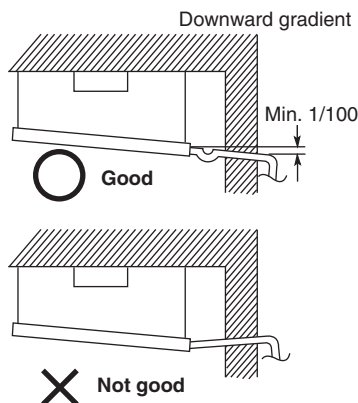

Fig. 3-80
- (3) After connecting the drain pipe securely, wrap insulator (field supply) around the pipe.
- (4) Ensure the drain pipe has a downward gradient (1/100 or more) and prepare traps as indicated in Fig. 3-80.